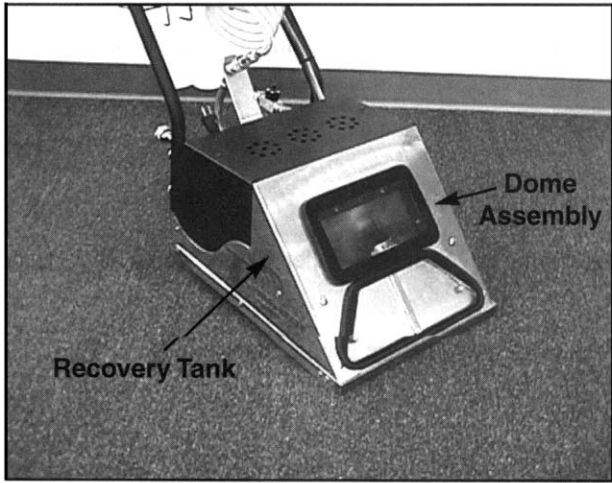

FIG.1-Dome Assembly
3. Check the **fresh water filter** in the solution hose (item 16 in the hose parts list) for damage or debris. Holes in the screen can allow contaminants to enter the solenoid resulting in costly repairs. A clogged filter will reduce performance and may cause permanent damage.
5. Remove the clear **dome assembly (figure 1)** which is located on the recovery tank .
- b) The **air filter screen** (item 71) should be clean of debris and checked periodically for any damage, replace if necessary.